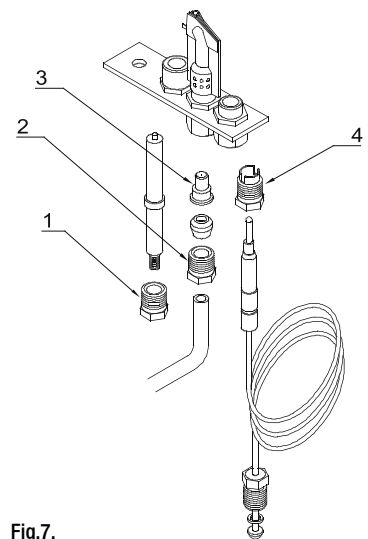

Fig.7.
3. Unscrew the ignition rod nut '1' (Fig.7)
4. Unscrew nut on the pilot gas tube '2' (Fig.7)
5. Remove the nozzle '3' (Fig.7) and replace it with the one for the type of gas chosen